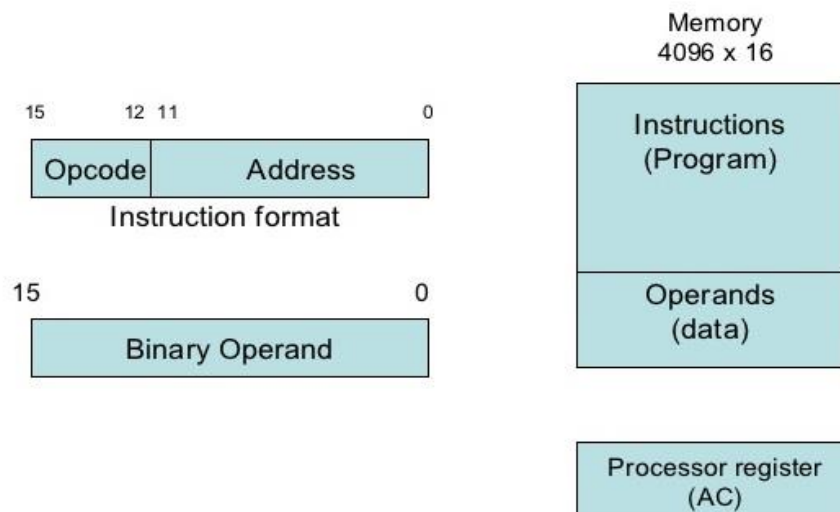

Figure 2.1: Stored Program Organization
- The following figure 2.1 shows this type of organization.